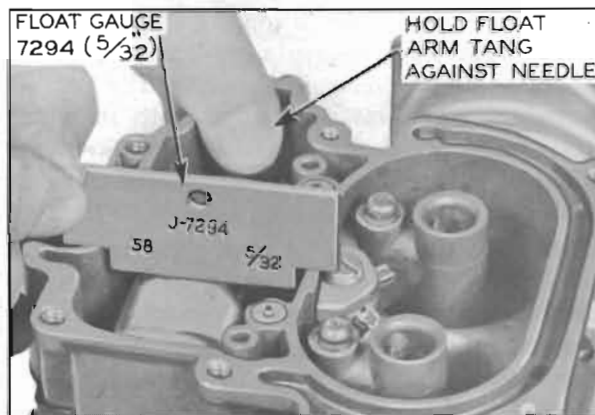

Figure 3-72—Float Level Adjustment
**NOTE:** *There are no lead gaskets under nozzles in this carburetor. See figure 3-72.*
9. Hold float arm tang against float needle; then check float level using Float Gauge J-7294 ( $\frac{5}{32}$ " (without gasket)). See figure 3-72. If top